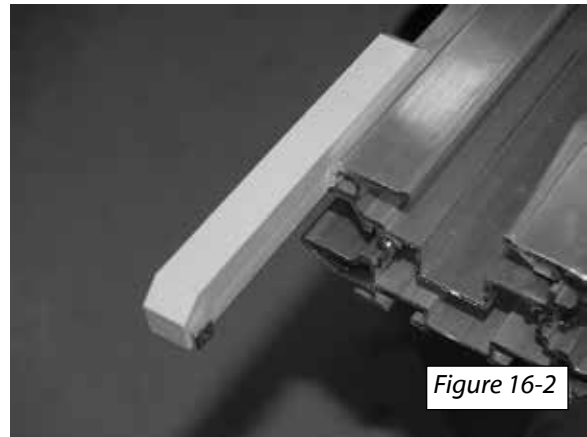

Figure 16-2
7. Slide the lower limit cam square nuts into the limit cam fastener channel and onto rail. [Figure 16-2]